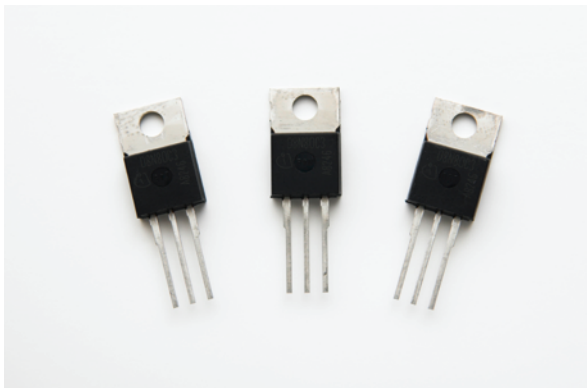

Figure 6 MOSFET, showing the three terminals
A MOSFET may be a discrete device (Figure 6) or it can be fabricated on an integrated circuit (IC) chip. On an IC chip, it might be only of the order of nanometres from source to drain. A single IC could contain many thousands of MOSFETs, along with other components, such as resistors, capacitors and diodes in very high densities.